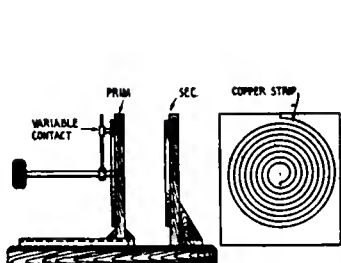
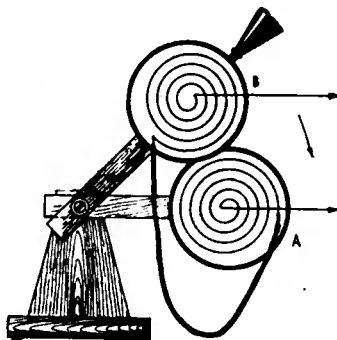
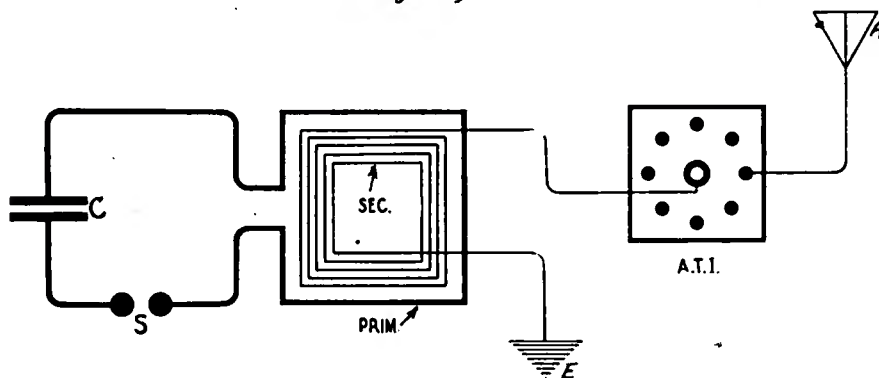

Figure 97
Figure 98
Figure 100
(1) Figure 97. To show the general construction of a pancake type of oscillation transformer.
(2) Figures 98 and 99. To show the principle and use of the variometer as a coupling transformer.
(3) Figure 100. To show the general construction of one type of oscillation transformer wherein the primary and secondary inductances are of fixed value.
In figure 97, the primary and secondary windings which are made of copper strip are mounted on a base. One of the windings is movable to permit variation of the coupling. It is customary to provide either the primary or secondary with a sliding contact rotated by a handle. This handle also is employed to draw the coils apart for change of coupling.
Figure 98 discloses the general construction of one type of variometer. Two spiral coils of fixed inductance are connected in series. When coil B is parallel with coil A, the self-induction of the variometer is zero. It is maximum when the coils are drawn apart.
In figure 100 the primary winding of the oscillation transformer consists of a single turn of cable especially constructed for conducting high frequency currents. The secondary winding consists of eight turns of stranded cable. The aerial tuning inductance indicated at A.T.I., has eight plug contacts which make connection with the various turns on the antenna tuning coil.
In figure 97, the coupling is varied by drawing the primary away from the secondary. In figures 98 and 99, the coupling is altered by changing the relative position of the coils A, B. In figure 100, the coupling is more or less fixed.